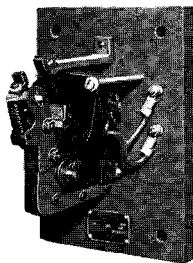

Fig. 10 -Low Voltage Relay
30. Should the line voltage fail, protection to both workmen and equipment against unexpected starting is provided by a low voltage relay, Fig. 10. The instant the voltage fails, this device opens the control circuit which can be closed only by means of a push button or a reset contact on the master switch in the OFF position. When the relay is closed the holding circuit is completed so that the push button can be released and the master switch moved on past the reset contact.